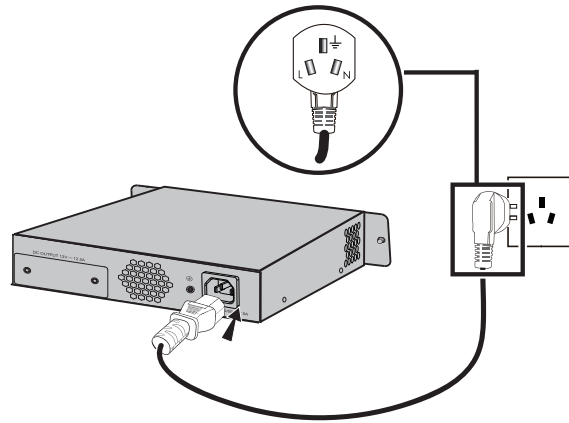

Figure 5-6 Power on RPS150
4. Connect the AC input socket of RPS150 and the power socket with the power cord provided with RPS150, as shown in Figure 5-6.